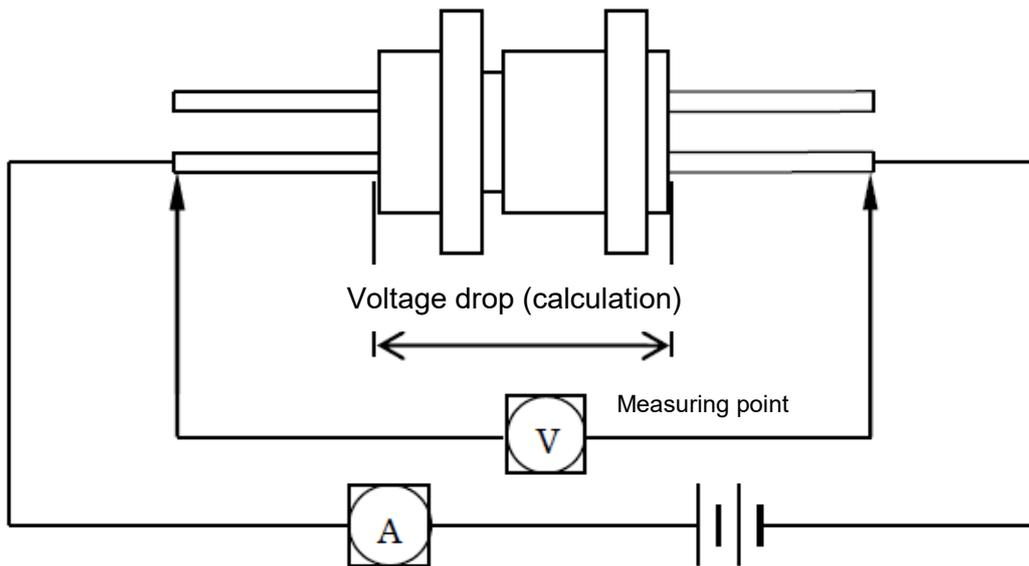

Figure-1 Test Circuit for Contact Resistance
Mated connectors shall be tested as follows. Test circuit for contact resistance is shown in Figure-1.
- c) After applying specified current to contacts at ambient temperature $25^{\circ}\text{C}\pm 3^{\circ}\text{C}$ and contact temperature is stabilized, voltage drop for each mated contacts within specified range (Figure-1) shall be measured.
- a) Connectors shall be mated to the same depth as common use and voltage drop shall be measured within specified range (Figure-1).